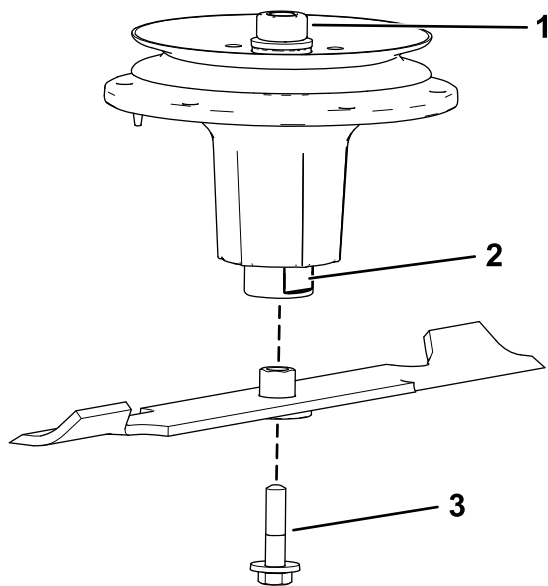

Figure 107
2. Install the bushing/blade assembly into the spindle shaft (Figure 107).